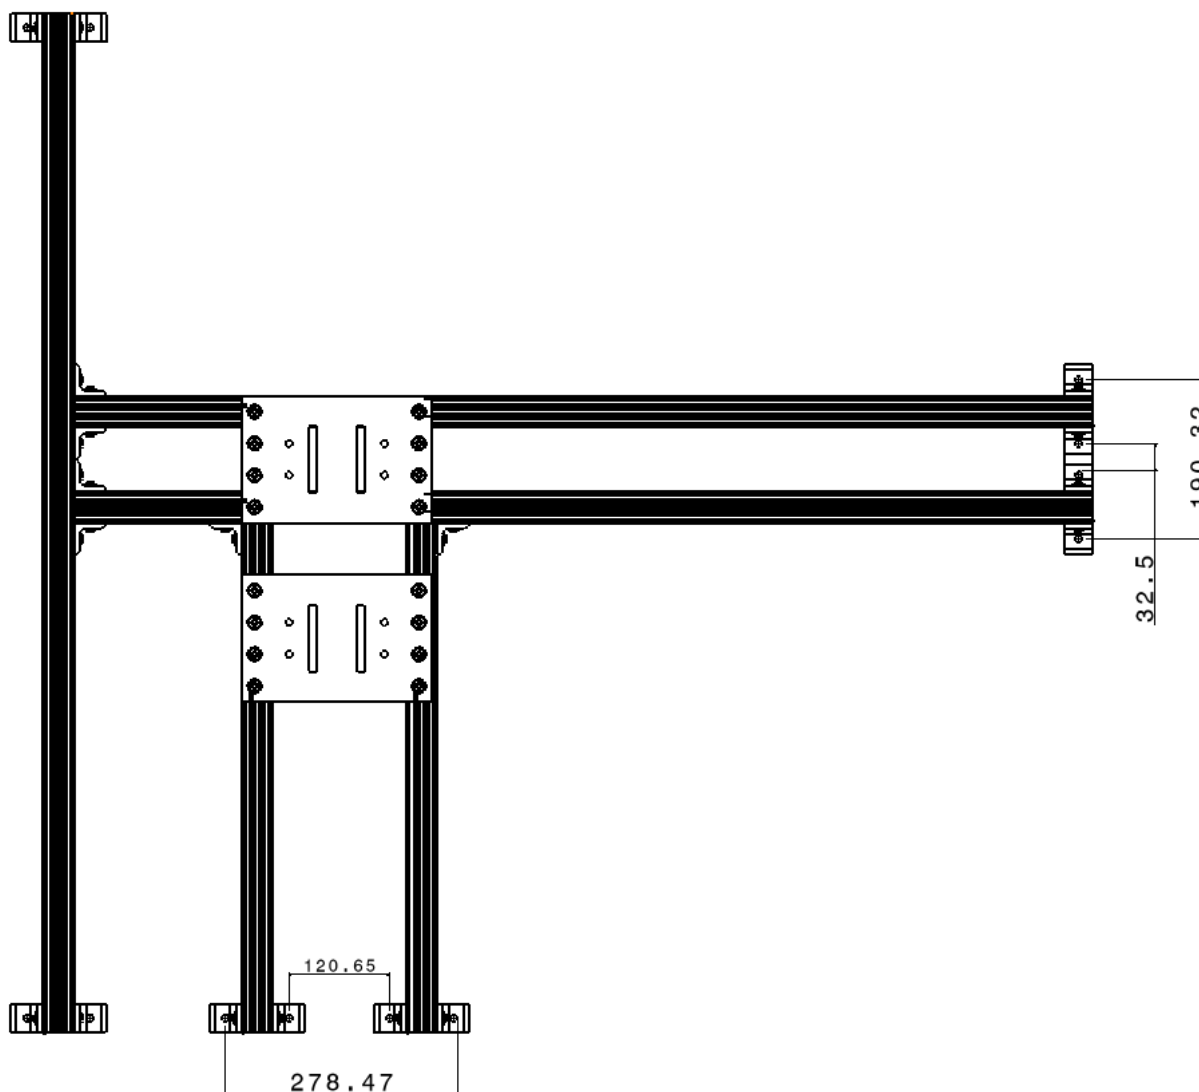

Fig. 3.16: Assembled two-axis railing system
- ❑ Once inserted, the assembled railing system will look similar to Fig. 3.16.
- ❑ In Fig. 3.16 dimensions are just nominal. You can put this railing system on the floor and fix it with your own holes on the floor or the plywood.